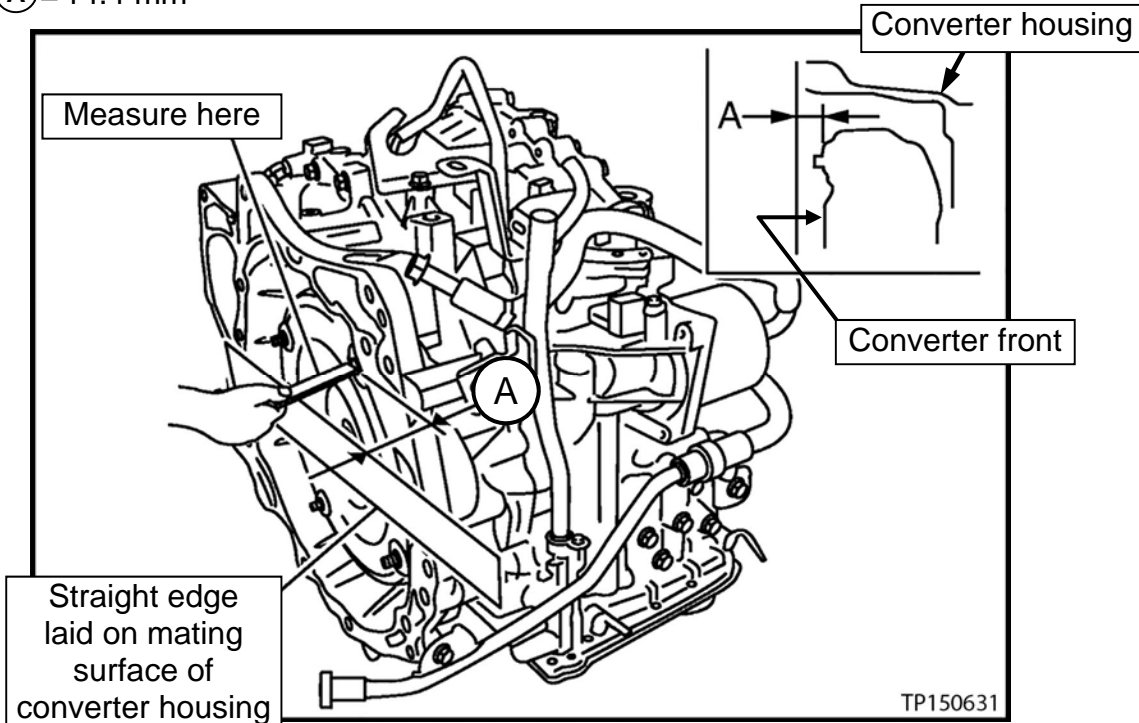

Figure 162
- Verify the torque converter is installed at the proper depth (see Figure 162).